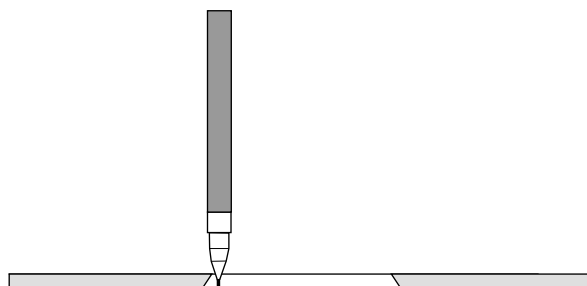

Figure 3
- e. A plastic template is included with the PASCO scientific Field Mapper, for drawing circles. (see Figure 3) Place the template on the conductive paper and draw the circles with the conductive ink pen. (If desired, you may first draw the circle template with a soft lead pencil and trace over the pencil line with the ink.)